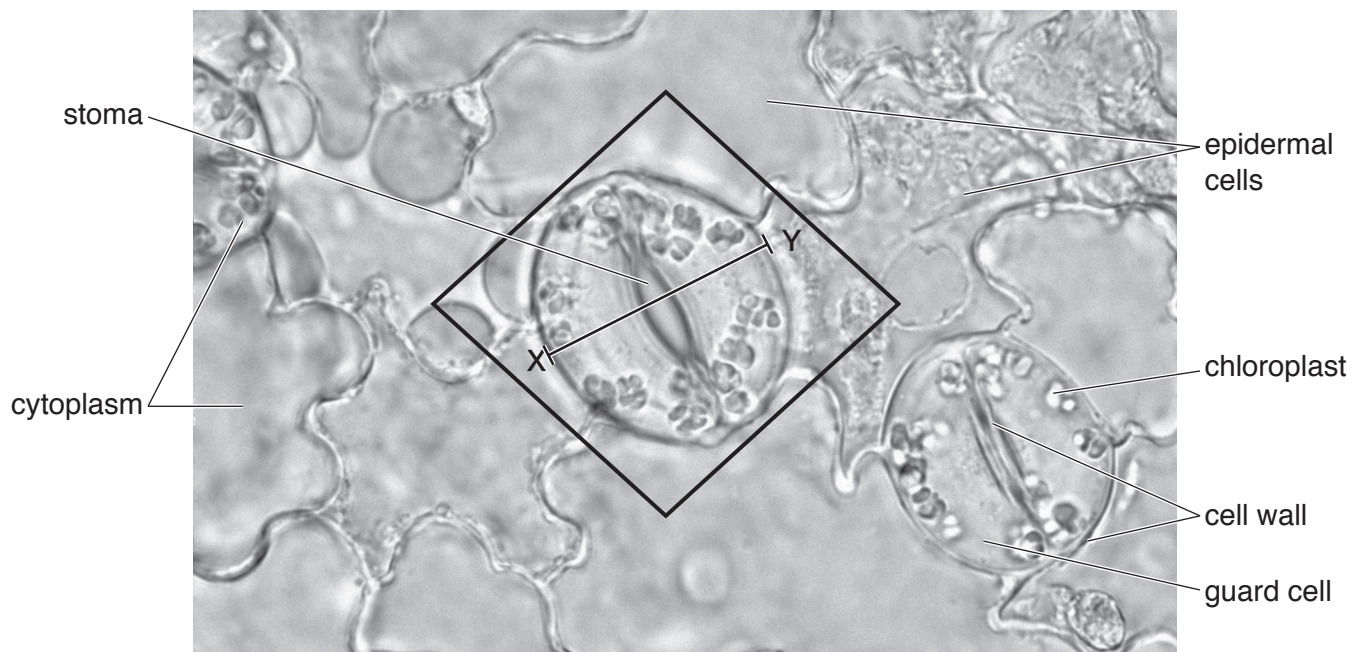

Fig. 2.1
- 2 Fig. 2.1 is a photomicrograph of the epidermis of a leaf. It shows epidermal cells, guard cells and stomata.
- (ii) Make a large drawing of the two guard cells and the stoma shown inside the box on Fig. 2.1.
- (b) Measure the total width of the guard cells and stoma along the line **XY** on Fig. 2.1. Include the units.
Total width of the guard cells and stoma on Fig. 2.1
$$\text{magnification} = \frac{\text{width on your drawing}}{\text{width on Fig. 2.1}}$$